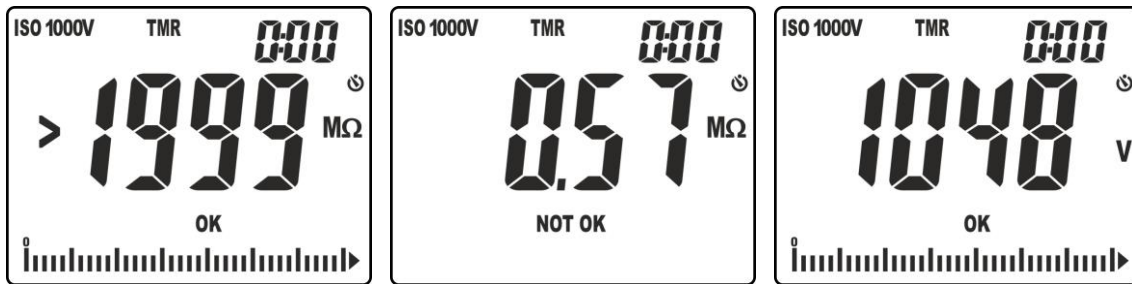

Fig. 21: Results of insulation measurement in TMR mode
9. In the screen in Fig. 21 – left side, the value of insulation resistance is present (symbol “>1999” indicates the out-of-range condition) at the end of measurement with positive result “OK” (value higher than the set threshold). In the screen in Fig. 21 – right side, the value of insulation resistance is present at the end of measurement with negative result “NOT OK” (value lower than the set threshold).